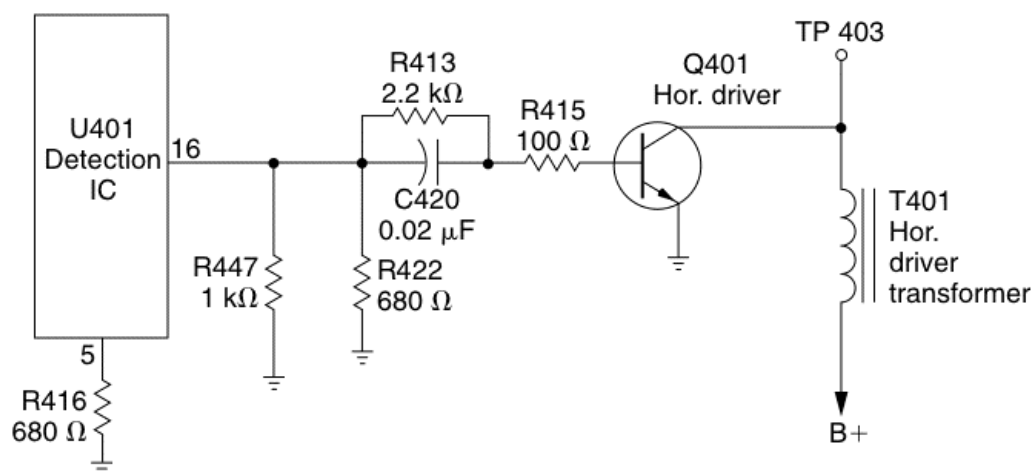

FIGURE 4-6 The horizontal countdown circuit in the RCA CTC130C chassis.
Integrated circuit (IC) U401 performs the dual operations of horizontal synchronization (oscillator) and vertical countdown. Along with other functions, U401 provides horizontal drive for the horizontal output stage and vertical drive for the vertical output stage. The IC (U401) is powered from the 26-V source via R116 ($680\ \Omega$) connected to pin 5 (Fig. 4-6). Internal to the IC, pin 5 is connected to a 10-V shunt regulator.